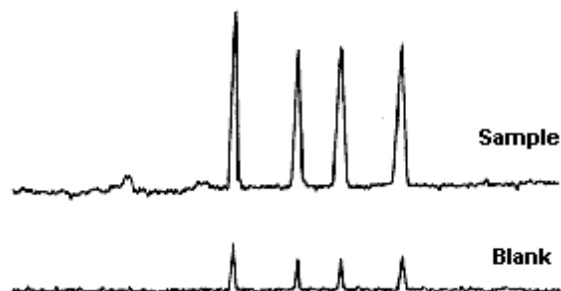

Figure 12. Peaks in blank are CARRYOVER from previous sample.
- Carryover peaks are those produced because of cross contamination from a previous injection (see Figure 12). When a blank is injected a miniature chromatogram appears.